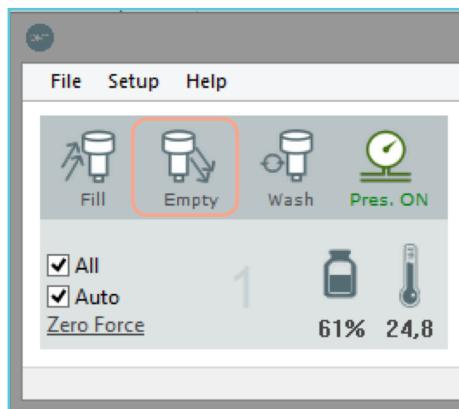

Figure 32
Step 4: Press the Empty icon (figure 32).